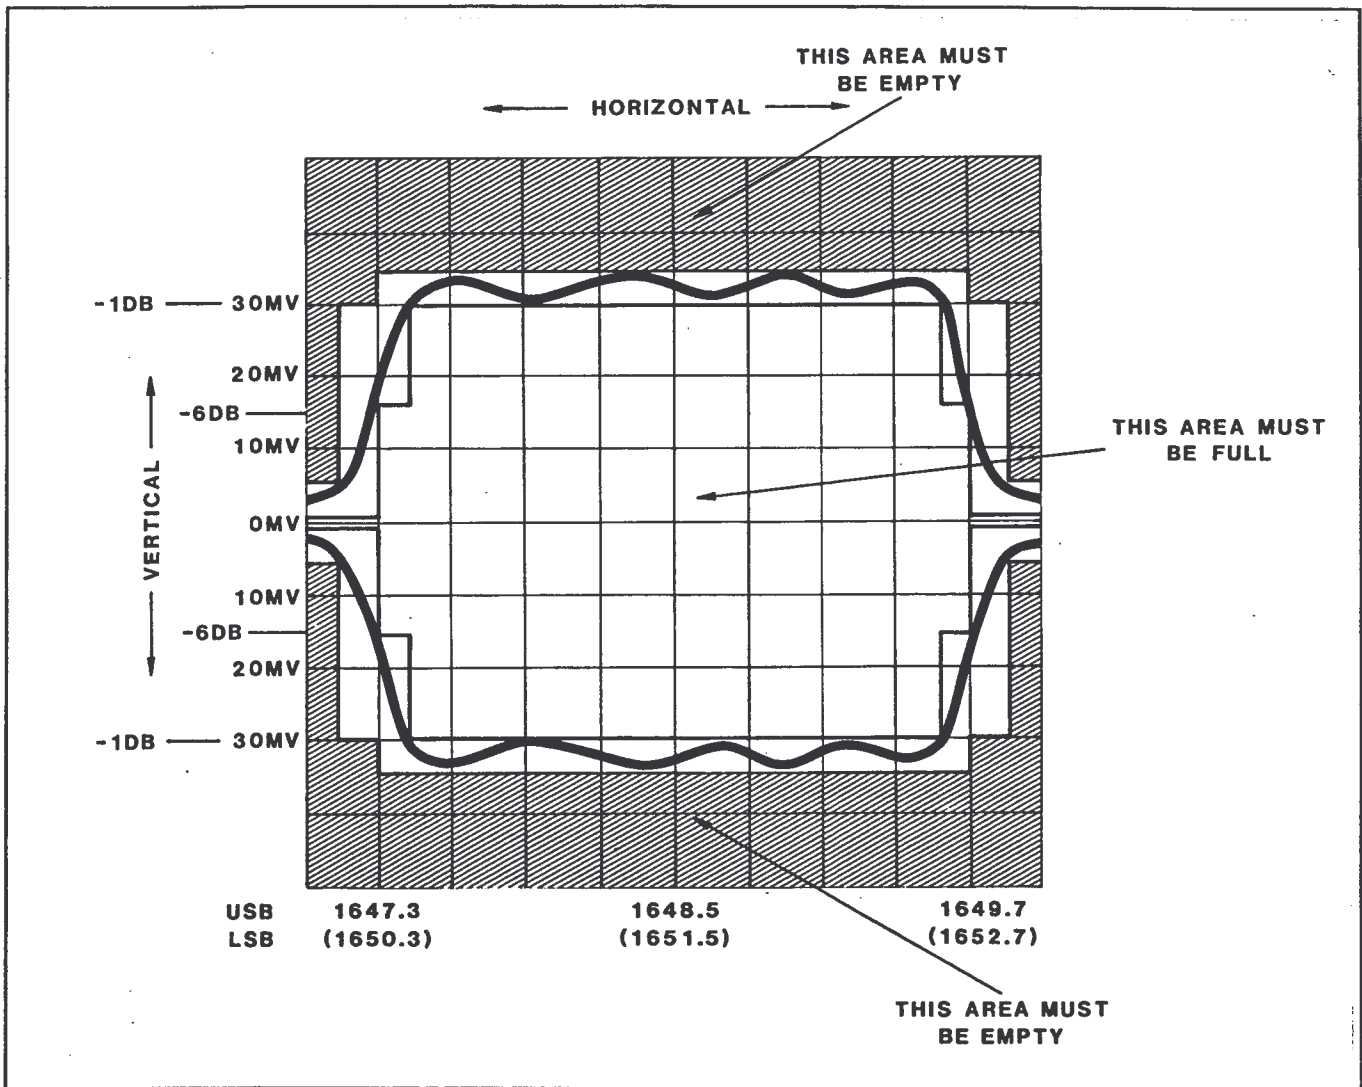

FIGURE 10.2-3.
6. Adjust L1 and L2 for the flattest possible response. See Figure 10.2-3.